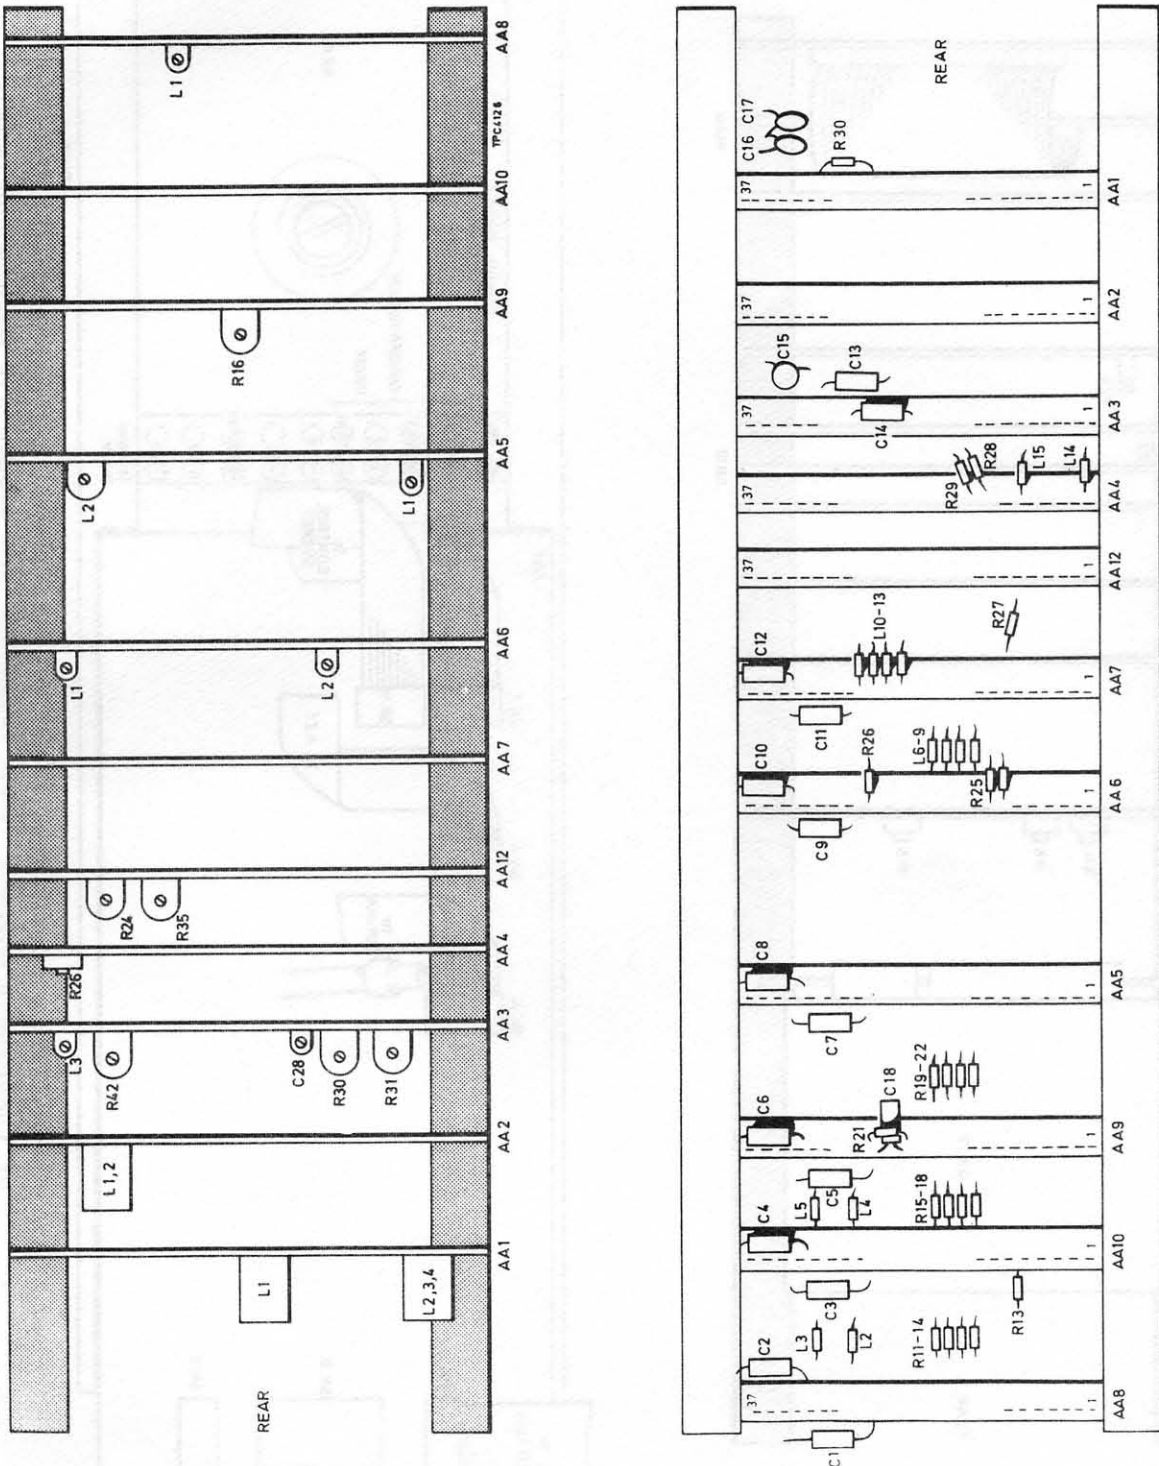

Fig. 1 RF unit assembly. Views of top (above) and bottom (below) of instrument showing board locations and accessible adjustment points
12. Many adjustment points are accessible from above. Adjustment locations for each of the three main assemblies, r.f. unit, control unit and local oscillator unit are shown in the top views in Figs. 1 to 3. The lower views identify board socket locations. For ease of identification these illustrations all show the instrument as viewed when it is supported by its side feet.